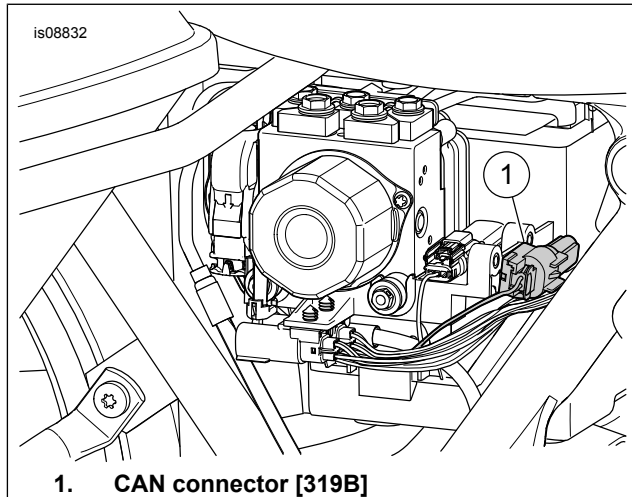

Figure 8. CAN Connector [319B], Under Right Side Cover
9. See Figure 8.
- a. Locate the 2-way Delphi CAN connector [319B] (1) under the right side cover.